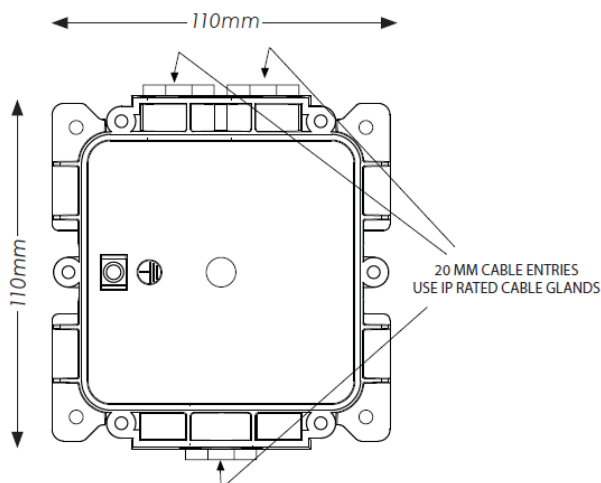

Figure 2.
1. Place the earthing plate behind the backbox (see Earth continuity plate section). Fit the backbox to a flat surface using the four fixing holes. The cable entry holes should be in the vertical plane. The backbox can be mounted with either the single or double entry holes at the top. (Fig. 2). *Note: All MCP installation and securing screws have a maximum tightening torque of 0.6Nm.*